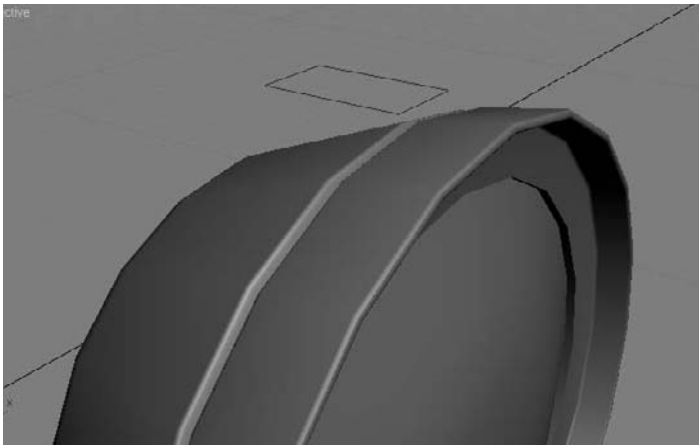

Figure 5.75
2. Go to the Create panel and, under Shapes, select Rectangle. Click and drag in the Top viewport to create a rectangle with Length 0.74 and Width 0.42. Move the rectangle above the thruster geometry we just lathed, as shown in Figure 5.75.